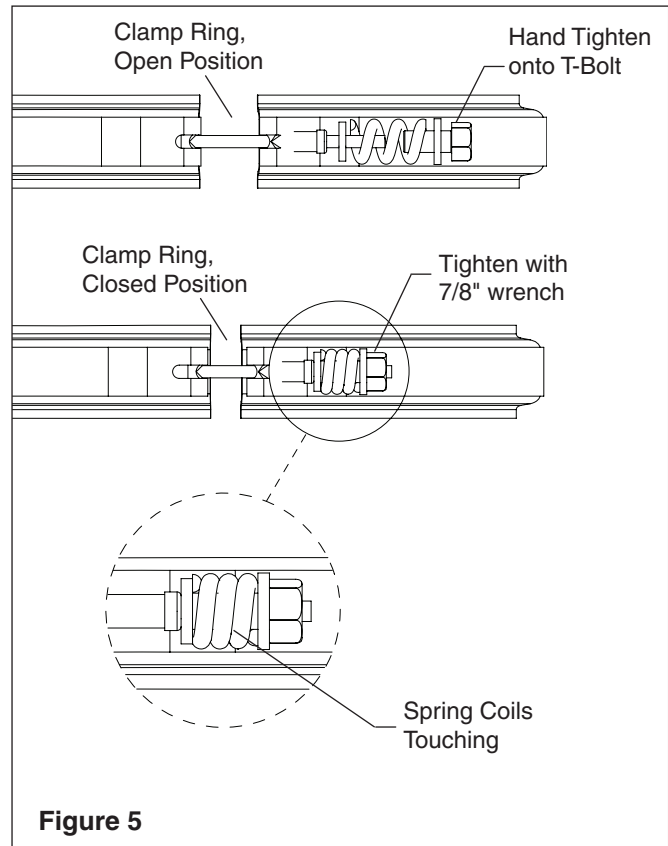

Figure 5
- Note:** The clamp is installed correctly only when the spring coils remain touching after tapping the clamp (See **Figure 5**).